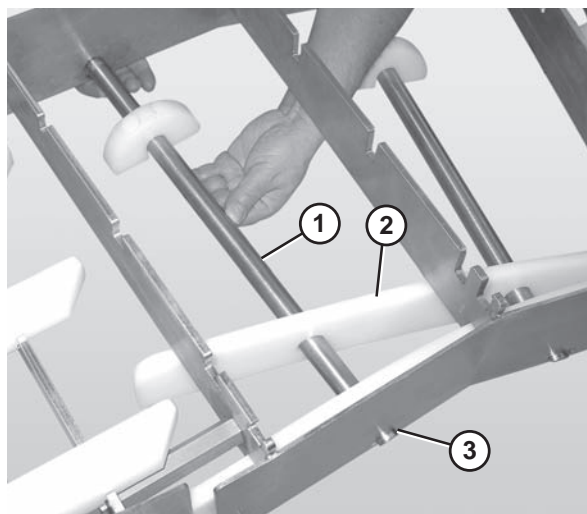

Figure 35
3. Slide the long end of the curve return shaft (**Figure 35, item 1**) through the center hole in the return bottom wear strip (**Figure 35, item 2**).
5. Push up on the return shaft and slide the notched end of the shaft through the small slot on the opposite side of the frame (**Figure 35, item 3**).